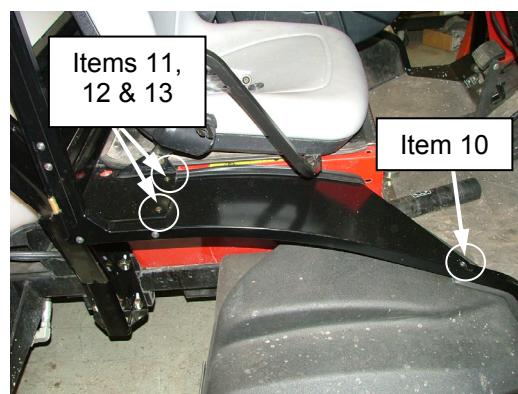

Figure 7
(2) 1/4" x 1/2" long, Phillips truss head bolt (Item 13)
14. Repeat step 13 for RH fender panel assembly onto RH cab side frame **(Figure 7)**.